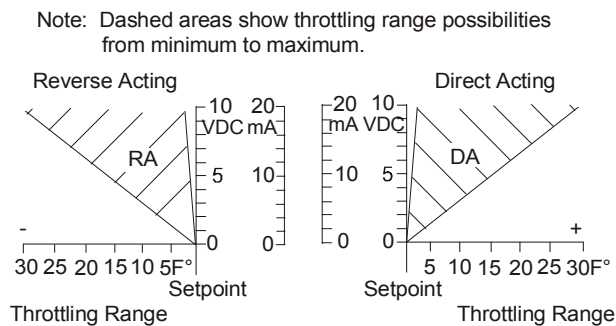

Figure 5: RA and DA Proportional Bands Shown in Proportional-Only Mode
With the operation jumpers in the Reverse Acting (RA) position, the analog output increases as the temperature drops below setpoint. (See Figure 5.)